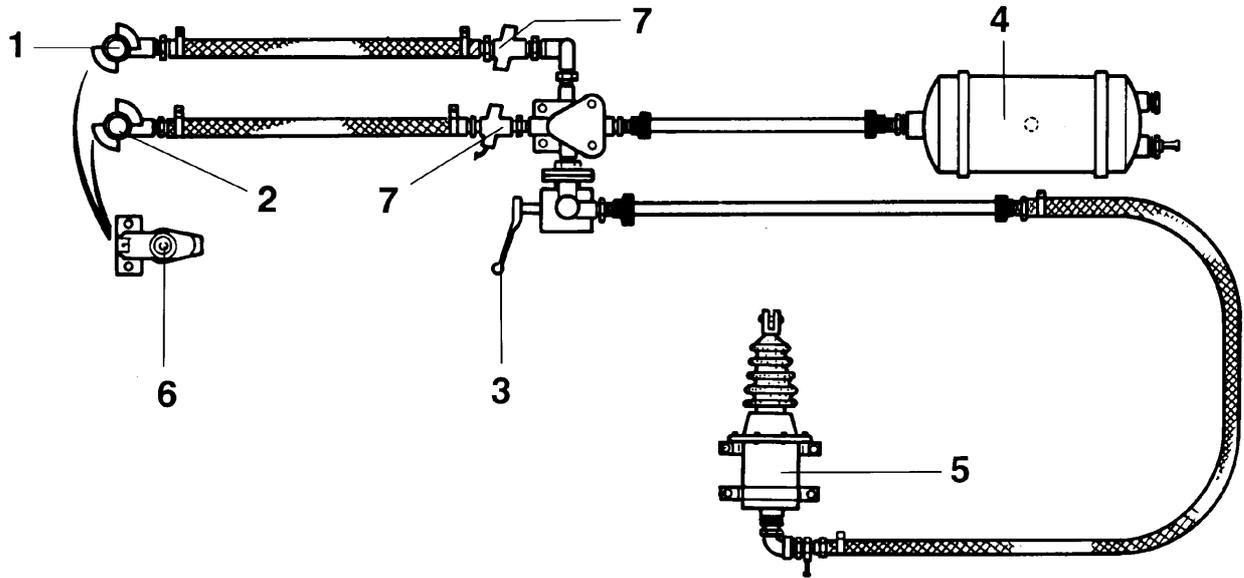

Fig. 57
2. Check cleanliness of coupling heads before coupling and pay attention to a proper fitting! The hose coupling (Fig. 57/1) for the brake line has a yellow marking. The hose coupling (Fig. 57/2) for the supply line has a red marking.
4. Check hand brake position (Fig. 57/3) of braking power governor!
5. If necessary, drain the compressed-air container (Fig. 57/4) Conduct a braking test!
6. Check the piston stroke of the braking ram! Only two thirds of the braking rams stroke (Fig. 57/5) may be used. If this is not the case, adjust the brake! Replace damaged dust covers!
7. After coupling off, hang the coupling heads into the dead couplings (Fig. 57/6) on the **ZG-B**!
1. Hydraulic socket and hydraulic plug (Fig. 57/7) for cleanness before coupling and observe proper fitting!